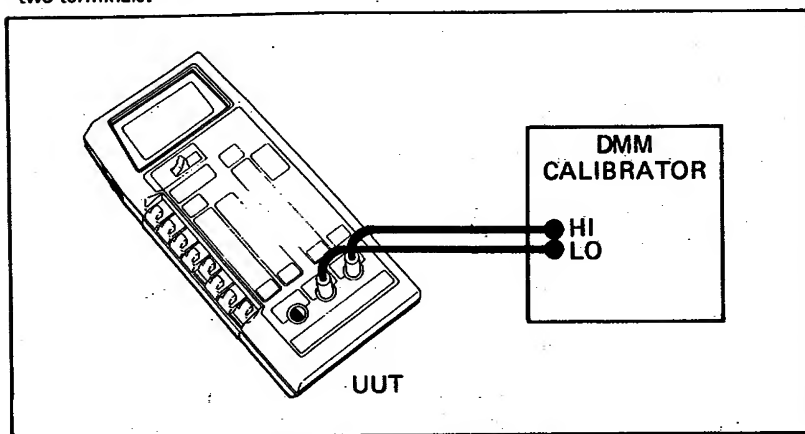

Figure 4-3. General Equipment Connection
3. Connect the equipment as shown in Figure 4-3.
1. Connect the equipment as shown in Figure 4-3 and release the mA-°C-V/k Ω /nS function switch.
2. Connect the equipment as shown in Figure 4-3.